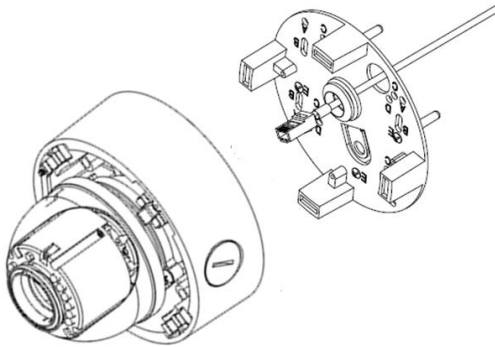

Figure 4
- Align the hole on MegaDome® UltraHD camera with the hole on mounting plate, and install the grommet on camera housing as shown in Figure 4.